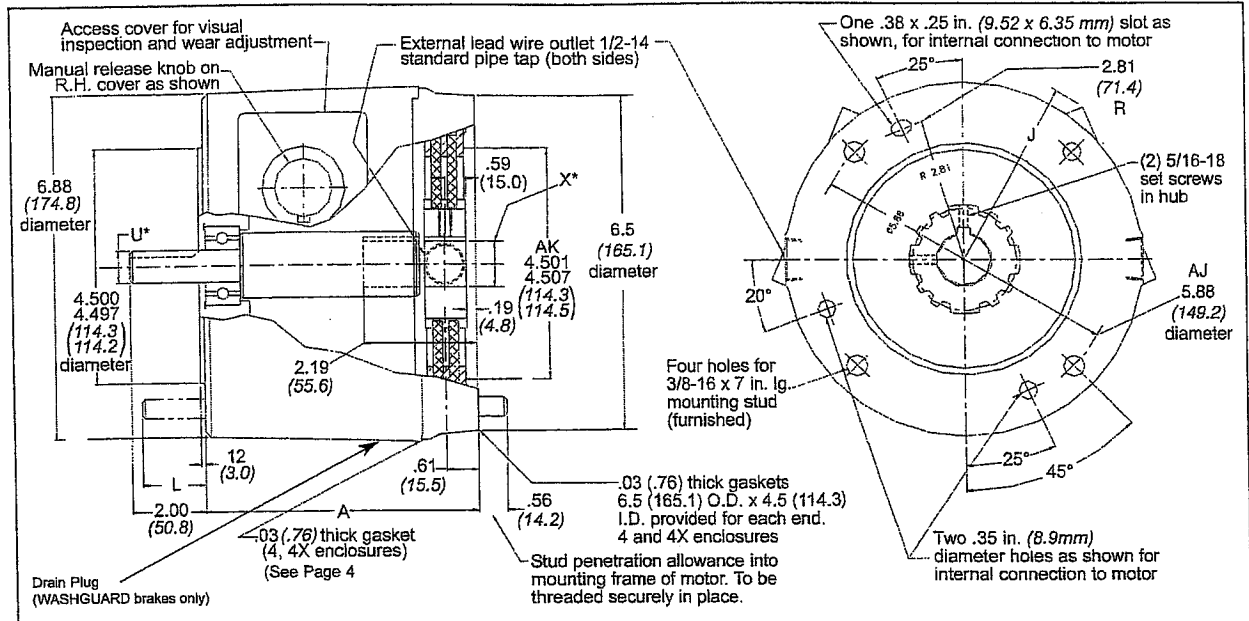

Figure 1
**7** A. Slide housing and shaft assembly onto mounting studs, rotating shaft until keyway is aligned. Be sure housing is assembled with access windows in same position as shown in Figure 1, page 1.